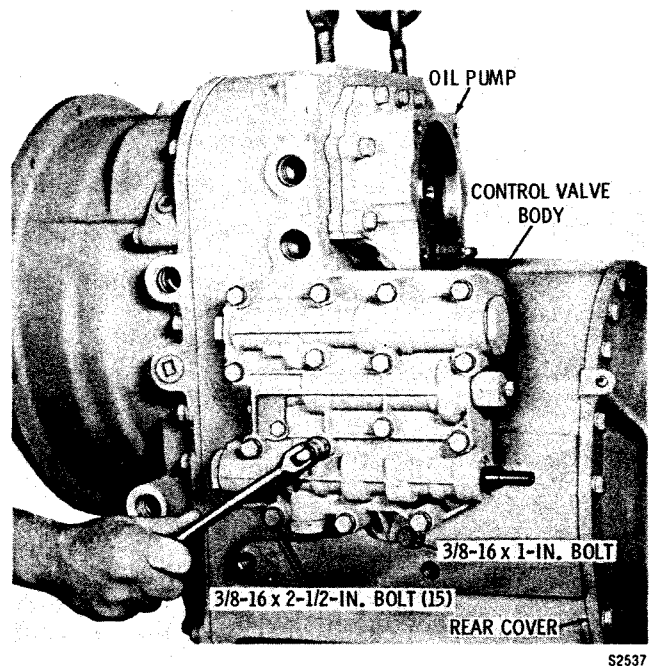
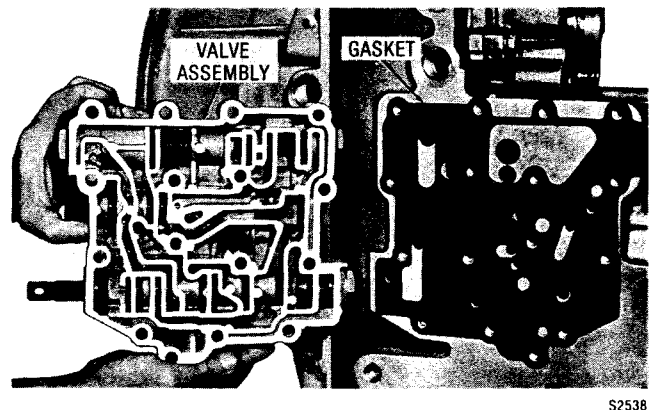

Fig. 5-8. Removing valve body bolts
Fig. 5-9. Removing valve body and gasket
(1) Remove fifteen 2-1/2 inch bolts and lockwashers and one hidden 1-inch bolt and lockwasher that attach the control valve body to the transmission housing (fig. 5-8).
(2) If present, remove bracket 28 (foldout 18,B).
(3) Remove the control valve body and gasket (fig. 5-9). Refer to paragraph 6-3 for the control valve assembly rebuild instructions.